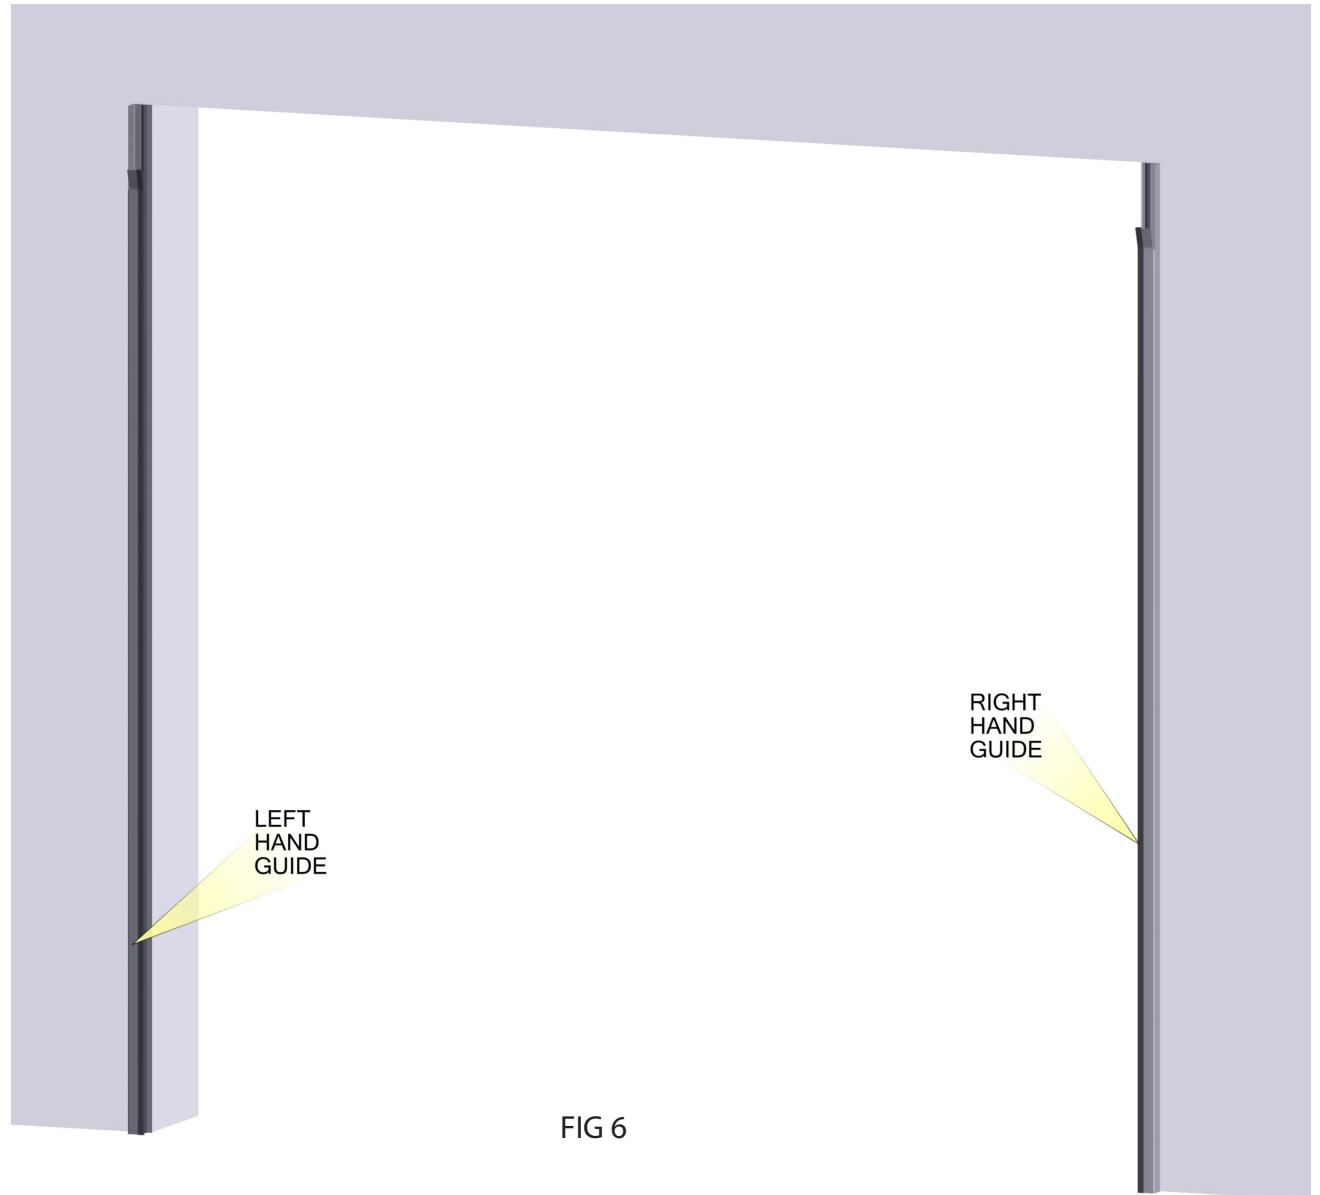

FIG 6
- Mount curtain guides to the surface using supplied fasteners. See FIG 6.